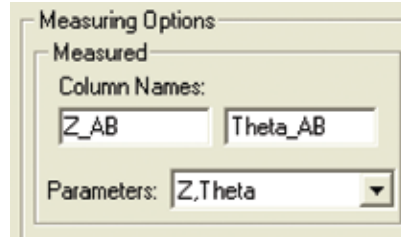

Figure 1
2. In the Force Function/Measure Options window, set the Measured Options Parameters to “Z,Theta” as shown in **Figure 1**.